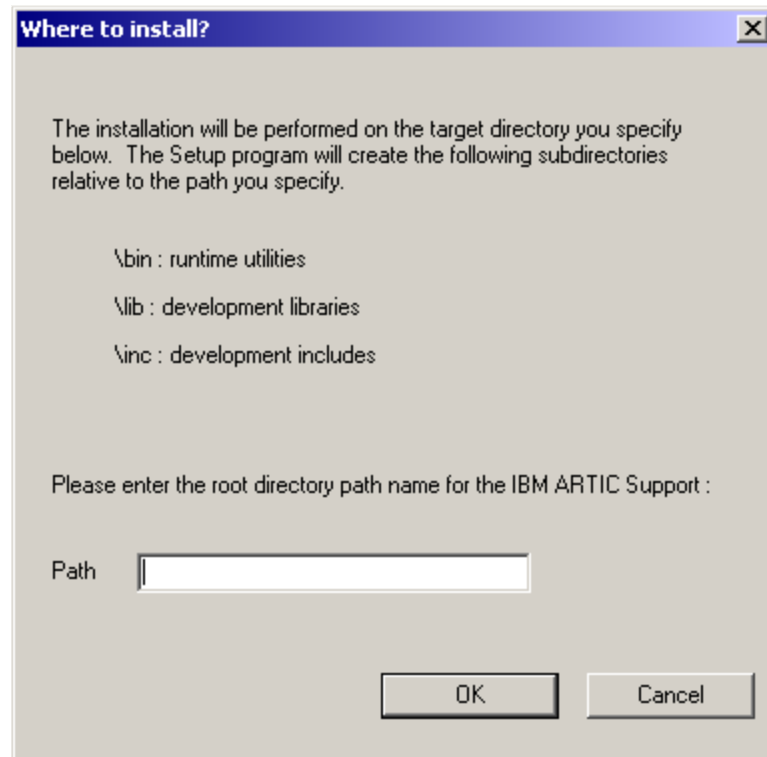

FIGURE 174. Where to install? screen
8. The Where to install? window appears as in Figure 174.